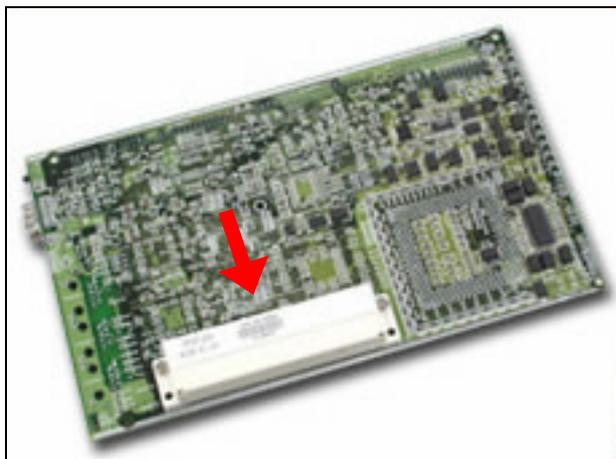

*Fig. 2-31* Recover cable connection
9. Connect the EZIO COM port cable and the IDE cable (*Fig. 2-31*).